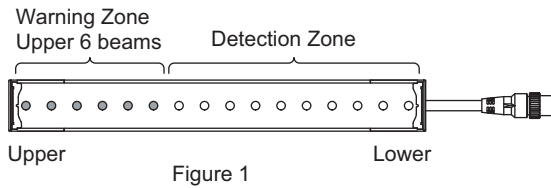

Figure 1
If number of floating beams is 3, minimum detection capability is 65mm.(Figure 1)
You can teach a warning zone by interrupting beams to be set as the zone, or manually specify number of beams from top or bottom beam. (figure 1 & 2)
- Setting from F3SJ's upper beams (figure 1)